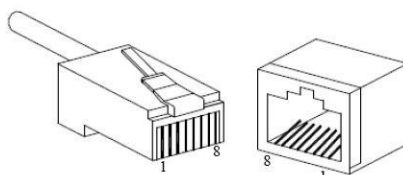

FIGURE 2.1 - RJ45 MALE AND FEMALE CONNECTORS
2.2.1 10/100BASE-T(X) ETHERNET PORT:
The 10/100BaseT(X) port (RJ45 female – SEE FIGURE 2.1) is located on ETH-SER-EE9 front panel. The pinout of RJ45 port is shown below in FIGURE 2.2. Connect the Ethernet RJ45 port with Unshielded Twisted Pair (UTP) or Shielded Twisted Pair (STP). The transmission distance cannot be more than 330 ft. (100m). If 100Mbps is used then the UTP must be 100Ω. If 10Mbps is used the UTP pins 3, 4, 5 must be 100Ω.